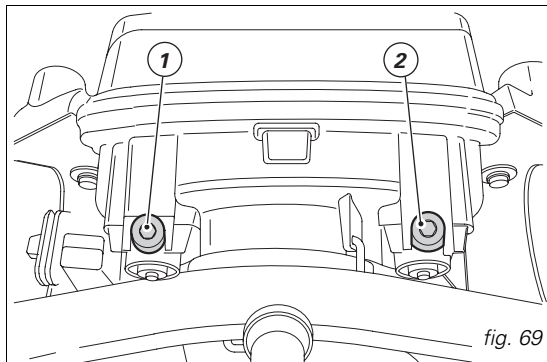

fig. 69
**Headlight vertical adjustment** (fig. 69)